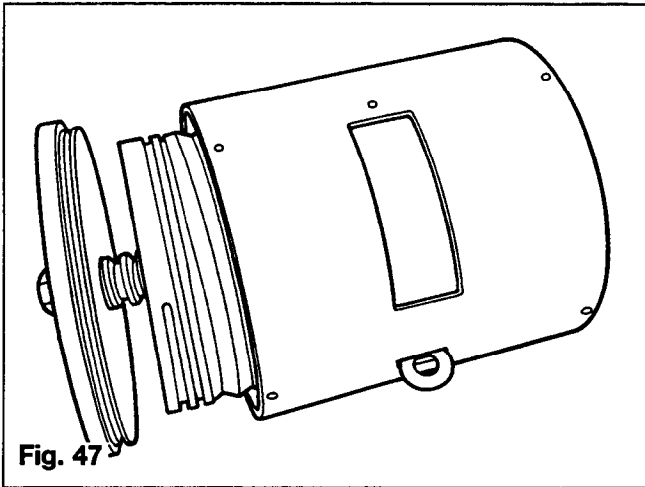

Fig. 47
10. Remove end cover and ball screw-reel assembly by pushing on the piston end of the ball screw (Figure 47).